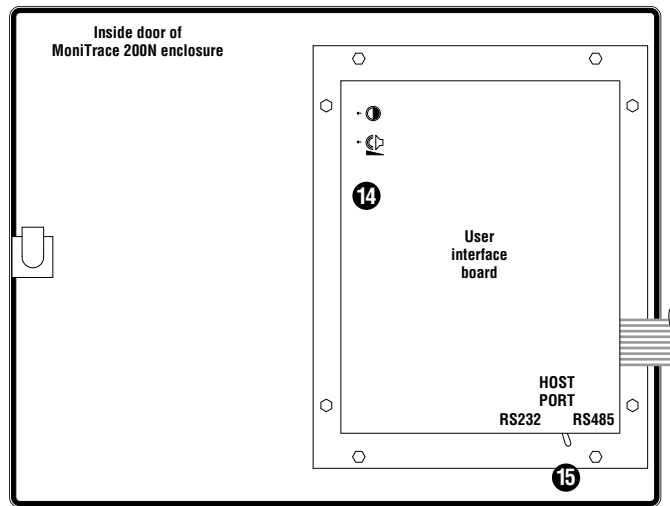

Figure 2.19. Selector switch for host port communications (RS-232 or RS-485).
The MoniTrace 200N is configured at the factory for RS-232 host communication. To change the unit for host communication using an RS-485 bus (two-wire twisted pair), flip the switch on the user interface board to the RS-485 position (toward the hinge), as illustrated in Figure 2.19. The selection switch is identified as item 15.
Note: The RS-232 host test port (item 14 in Figure 2.19) is for temporary connections only. It is intended for use during setup and diagnostic work. It provides a convenient means to connect a laptop computer running Raychem's MoniTrace Supervisor software. If using this test port, disconnect wiring to the DCS or host PC, if present. Also, ensure the selector switch for host port communications (item 15) is set to RS-232. When done using the test port, replace the host port wiring and set the selector switch to the correct position.